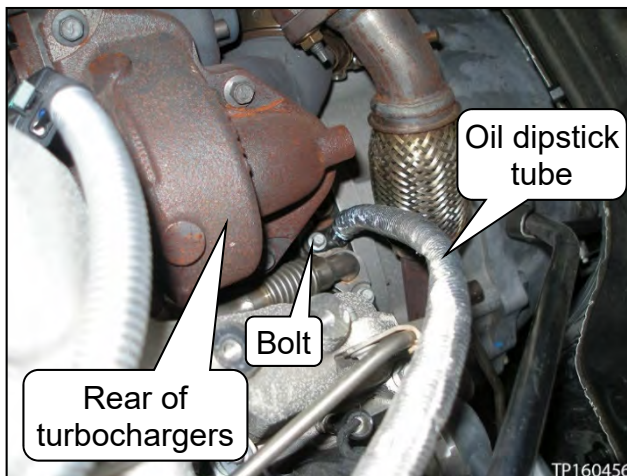

Figure 100
- f. When the oil dipstick tube is fitted correctly, install the bolt (see Figure 100).